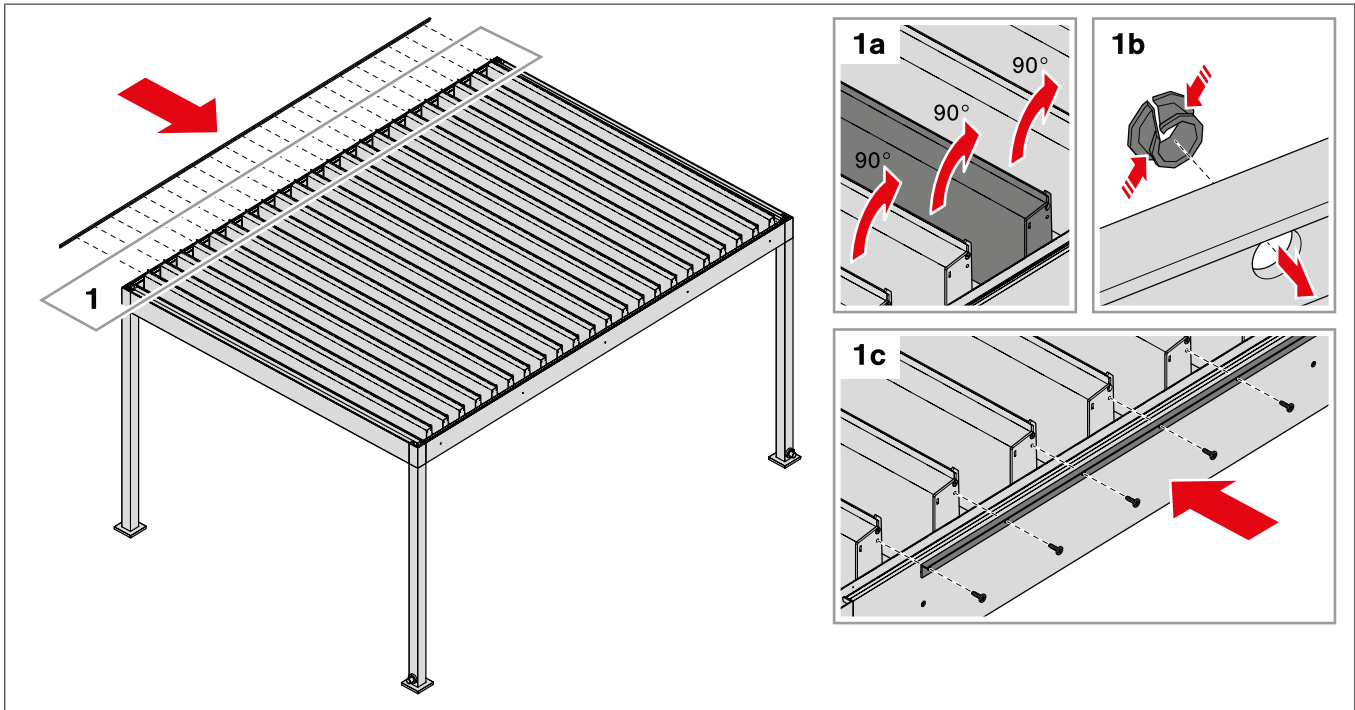

Fig. 37: Installing the push rod on the motor side
- Install the push rod (see Fig. 37).